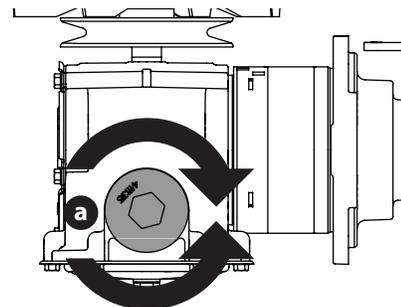

Figure 41
2. Place a suitable container under the drain plug (a) on the transmission. Remove the drain plug (a) and allow the transmission oil to drain (Figure 41).